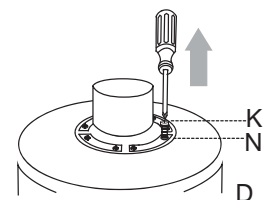

Fig. 5
5. Remove motor screws (K) and lock washers (N) from underside of motor. If necessary, discard plastic pieces. [Fig. 5]